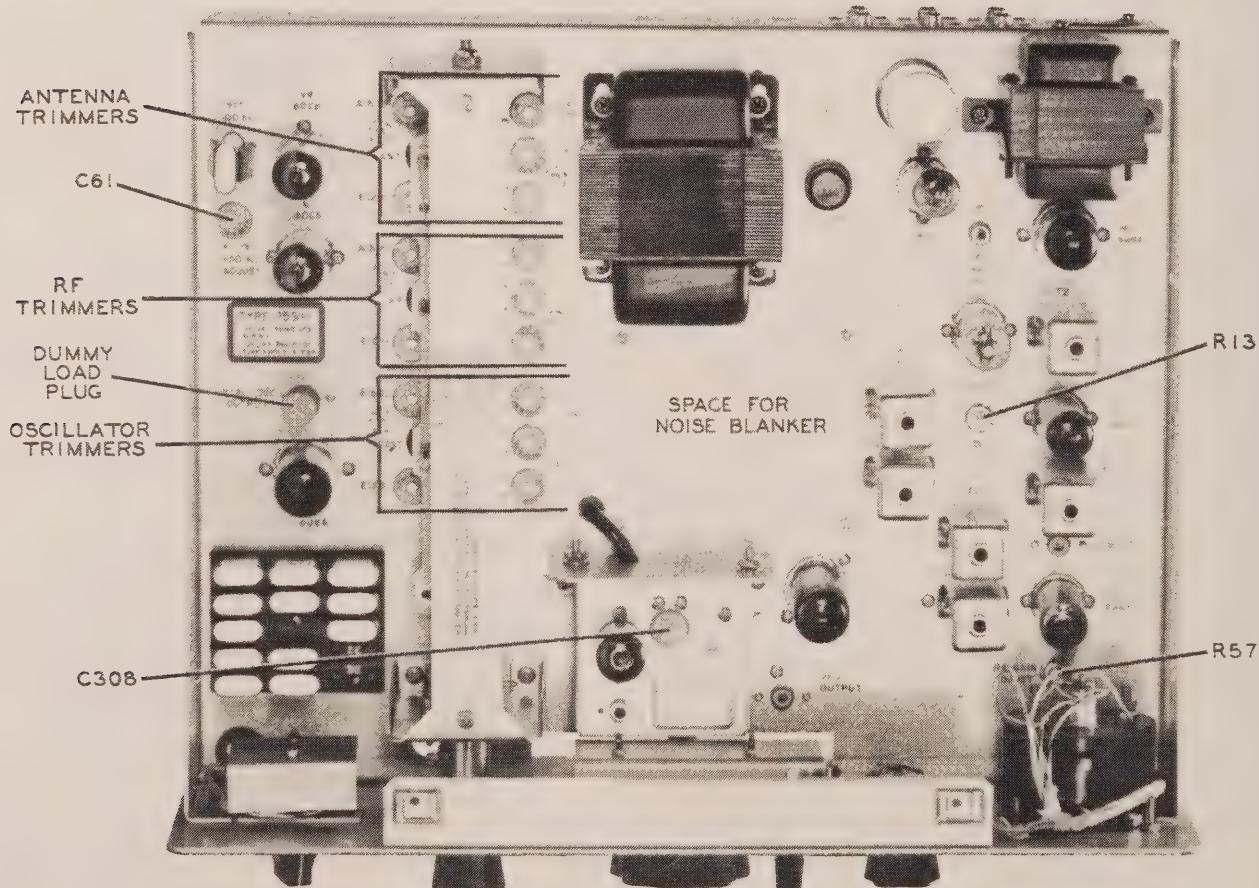

Figure 4-1. Location of Adjustments
4.4 ALIGNMENT PROCEDURE. (Refer to figure 4-1.)
4.4.3 R-F CIRCUIT ALIGNMENTS. (Refer to figure 4-1 for trimmer identification.)
- f. Peak the OSC E(28) trimmer for maximum vtm indication.
- g. Peak the RF E(28) and ANT E(28) trimmers for maximum S-meter indication.
- h. Set BAND switch to 21.0 and PRESELECTOR to 8.0 on logging scale. Adjust the OSC D(21) trimmer for maximum vtm indication. Adjust RF D(21) and ANT D(21) trimmers for peak S-meter indication.
- i. Set BAND switch to 14.2 and PRESELECTOR to 6.9 on logging scale. Adjust OSC C(14) trimmer for peak vtm indication. Adjust RF C(14) and ANT C(14) trimmers for peak S-meter indication.